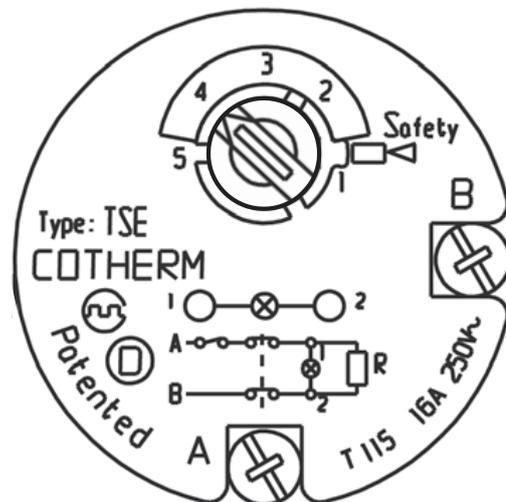

Figure 11-1: TSE single pole thermostat plan view details
3. The safety cut-out reset pin is positioned to the side of the control knob (indicated by a triangle with the words 'safety' above). Refer to Figure 11.1.